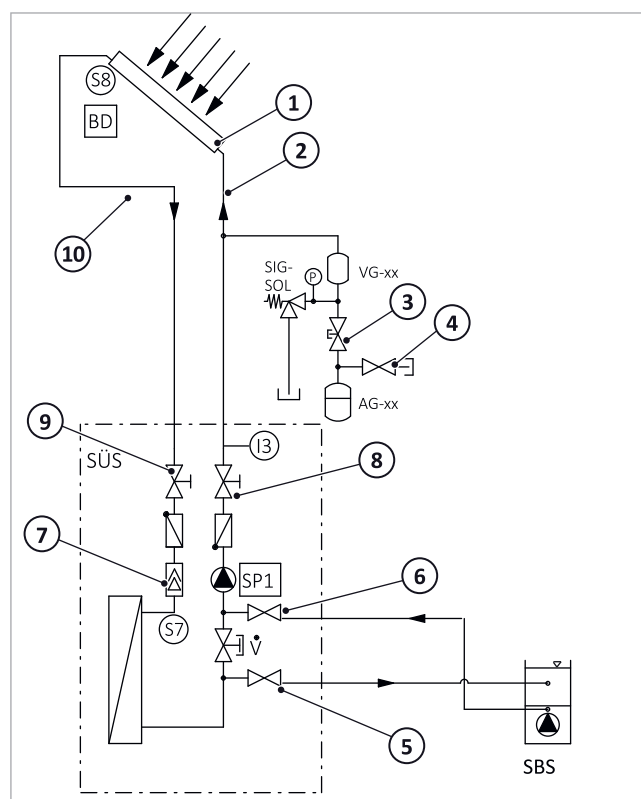

Fig. 108: Solar heat transfer station: Flushing the pump line
- Once the solar circuit has been refilled, gas will be emitted during operation, which collects in the station deaerator → fig. 108, page 57 (7). The gas emissions decrease as the operation time increases. It is therefore important to bleed the deaerator and check the system pressure every day in the first few days after start-up and then at regular intervals, depending on the amount of air discharged.